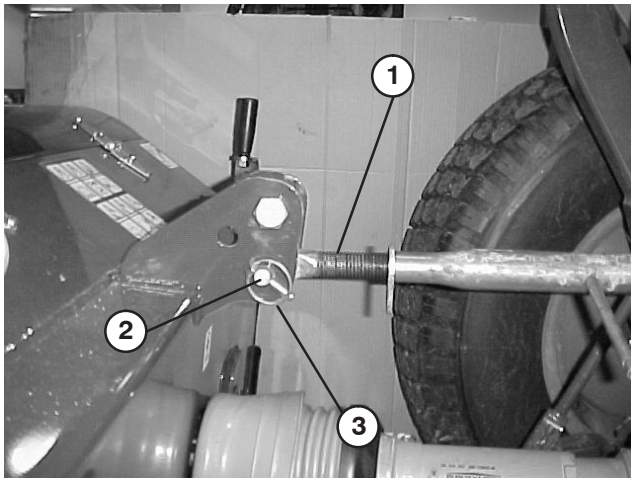

Figure 4
1. Connect upper link to lower hole in bracket and secure with link pin and lynch pin (Fig. 4).